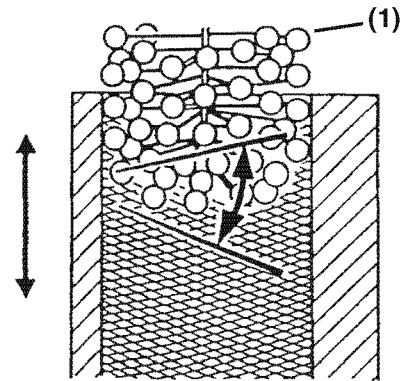

Figure 6-128
Note: When honing a cylinder, with either a ridged hone or a ball hone (**Figure 6-128, (1)**), move the rotating hone up and down in the cylinder bore to accomplish a 30° to 40° crosshatch pattern (**Figure 6-128**). This will provide the ideal surface for the proper seating of new piston rings.